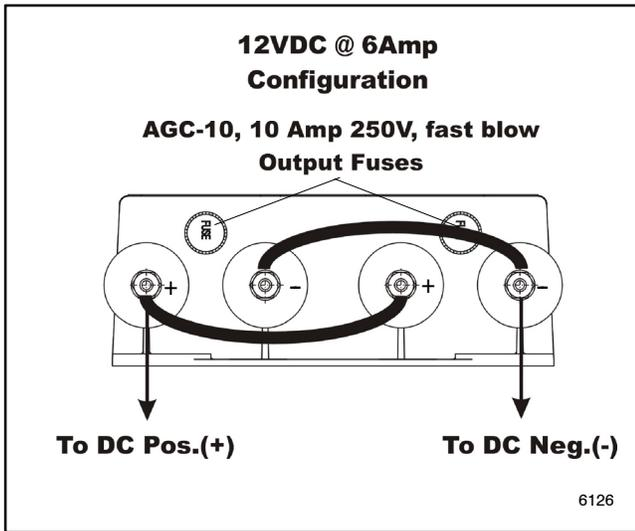
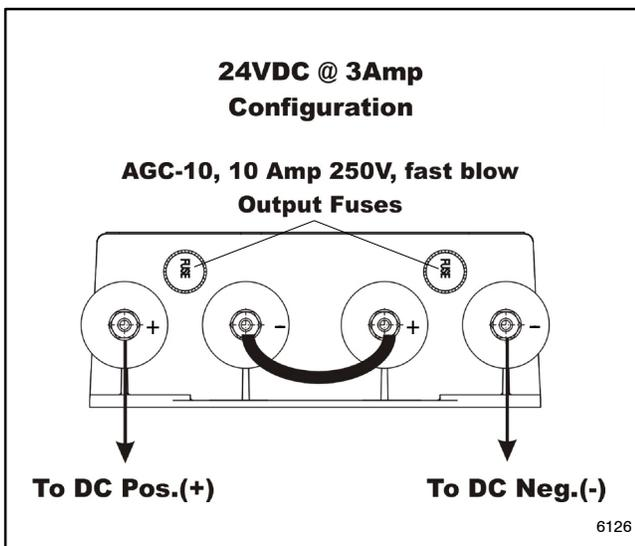

Figure 6-22 12-Volt Battery Charger Connections
Figure 6-23 24-Volt Battery Charger Connections
8. Connect the jumpers as shown in Figure 6-22 for a 12-volt system or Figure 6-23 for a 24-volt system, reconnecting the jumper lead for 24-volt systems as shown. Place the jumper lead terminal between the two flat washers on the battery charger terminal.
9. Connect the battery cables as shown in Figure 6-22 for 12 VDC systems or Figure 6-23 for 24 VDC systems.
Note: Battery chargers are configured for 12-volt systems at the factory. For 24-volt systems, reconnect the jumper lead as shown in Figure 6-23 and discard the second jumper lead.